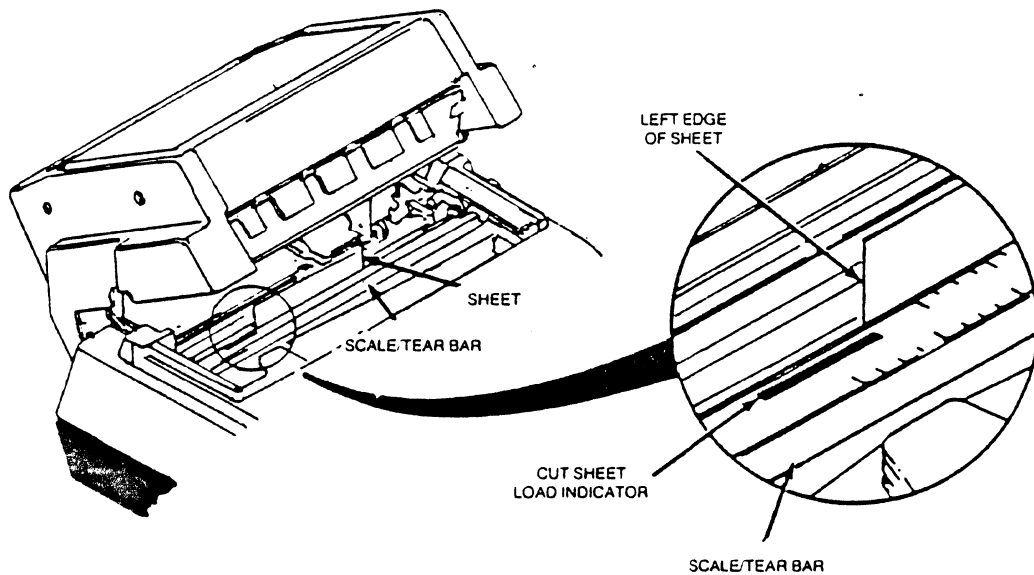

Figure E-8 Adjusting the Sheet Feeder
4. Lift the feeder body up and note how the left edge of the sheet that is in the printer lines up with the right edge of the cut sheet indicator on the silver scale tear bar (see Figure E-8).